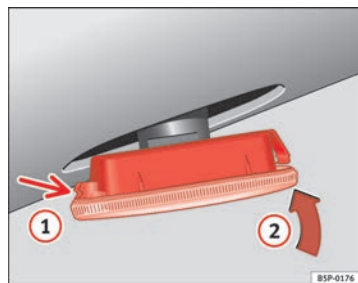

Fig. 198 Side turn signal
- First place the turn signal in the opening in the bodywork, fixing the tabs ⇒ fig. 198, arrow ①.
- Insert the bulb as shown by the arrow ② ⇒ fig. 198. ■